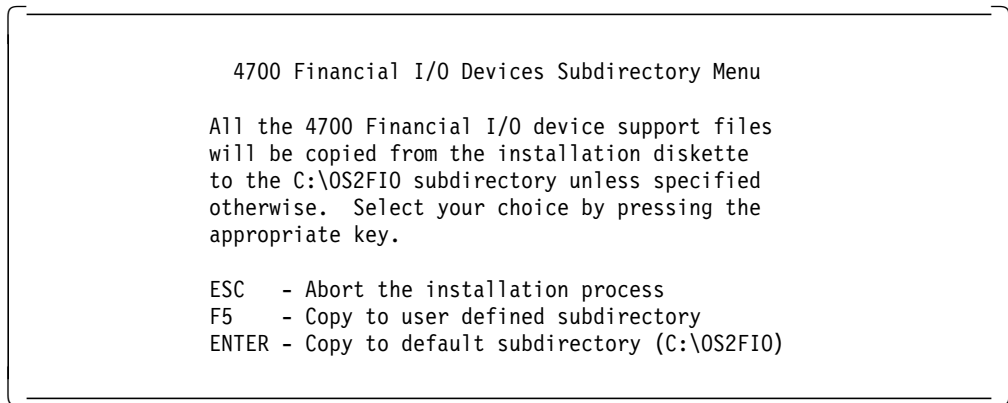

Figure 50. 4700 Financial I/O Devices Subdirectory Menu
2. Press Enter and Figure 50 will be presented.
As shown in Figure 50, all device driver files are copied to the specified directory. The default subdirectory is C:\OS2FIO. By pressing **F5** you can change the default directory.